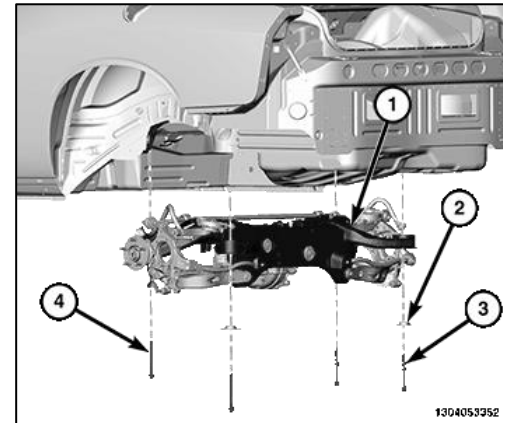

Figure 16
36. Loosely install the front bolts (4). Position the retainer plates (2) back into place and loosely install the rear bolts (3). <Figure 16>